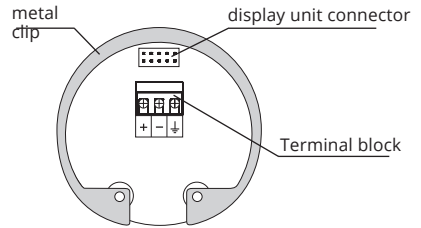

Fig. 17: Inside view of screw terminals of the level meter with current output ULM-70\_---I
5. Connect the cable to the screw terminals according to the diagram in Fig. 17 or 18. Firmly tighten the terminals and the cable outlet.
In the event of strong ambient electromagnetic interference, paralleling of conductors with power distribution, or for distribution to distances over 30 m, we recommend grounding the level meter (see above) and using a shielded cable. Ground the shielding of the cable on the side of the power supply, or the shielding is possible to connect only on inside pin of the level meter marked  $\perp$  see fig. 17 and 19 (the shielding of the cable is always connected in a single location).